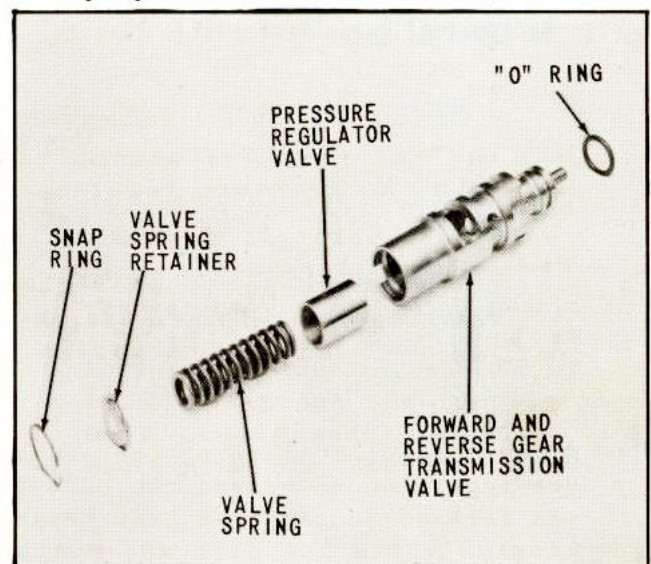
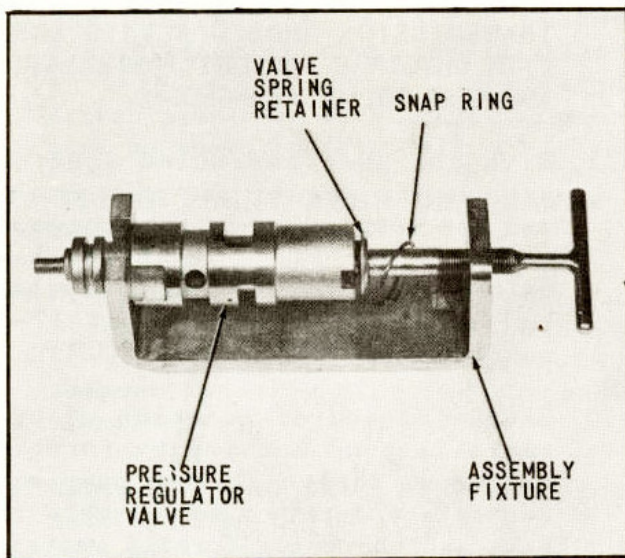
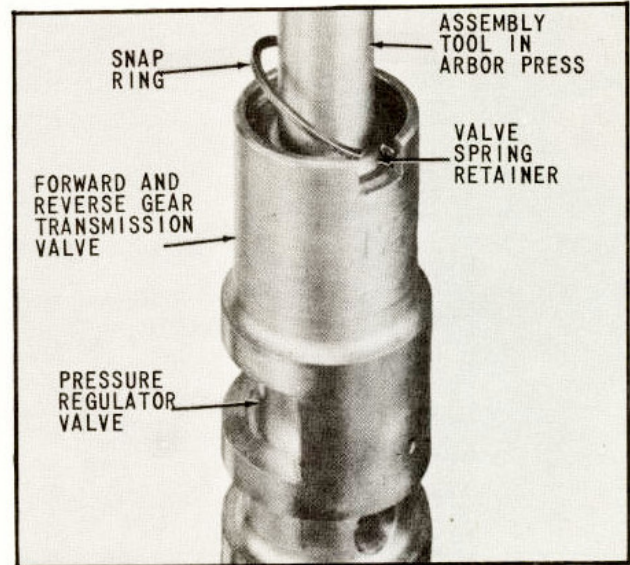

Fig. 67 Exploded View of Valve and Spring Assembly
Fig. 68 Control Valve Assembly in Fixture
Fig. 69 Installation of Snap Ring
73. Collect the valve and spring assembly components, as shown in (Fig. 67), on a clean surface and note carefully the following:
74. After carefully checking the pressure regulator valve and the bore in the forward and reverse gear transmission valve for dirt and burrs, assemble all valve and spring components shown in (Fig. 67).
75. Place the assembled parts in a suitable assembly fixture, (Fig. 68). Turning handle of threaded plunger, compress the regulator valve spring until the groove for the snap ring in the pressure regulator valve is fully exposed. Install snap ring shown in (Fig. 69). The "O" ring shown in (Fig. 67) should be installed on end of valve.
NOTE: The control valve assembly can also be assembled by using an arbor press with suitable tools, as shown in (Fig. 69).